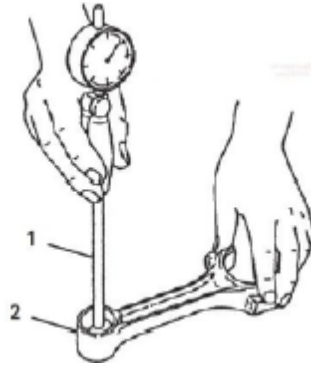

Figure 95.
1. Measure the piston pin bushing bore using a bore gauge (Figure 95, Item 1). Replace the bushing if not within specifications. If the bushing has been removed, measure the inside diameter of the connecting rod small end (Figure 95, Item 2). See *Connecting Rod Mechanical Specifications Chart*.